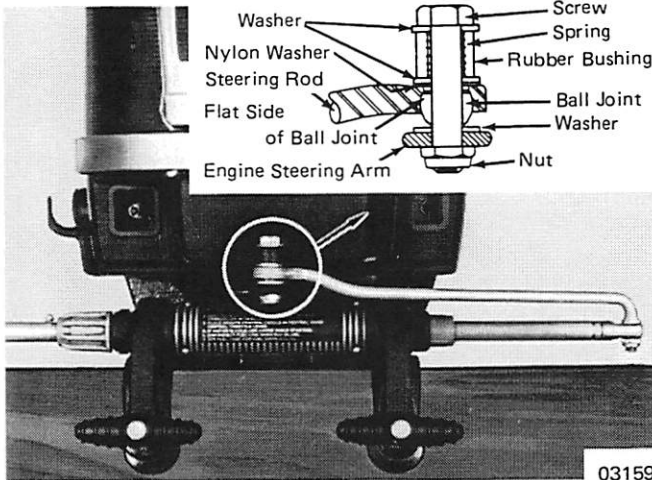

Figure 1. Attaching Kit Installed
1. Install attaching kit on steering arm as shown in Figure 1.